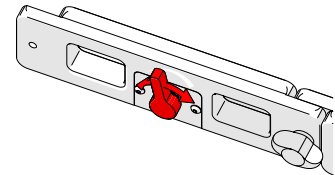

Fig. 7: Adjust magnetic attraction with lever
2.5. Optional Magnetic Arm (Fig. 7)